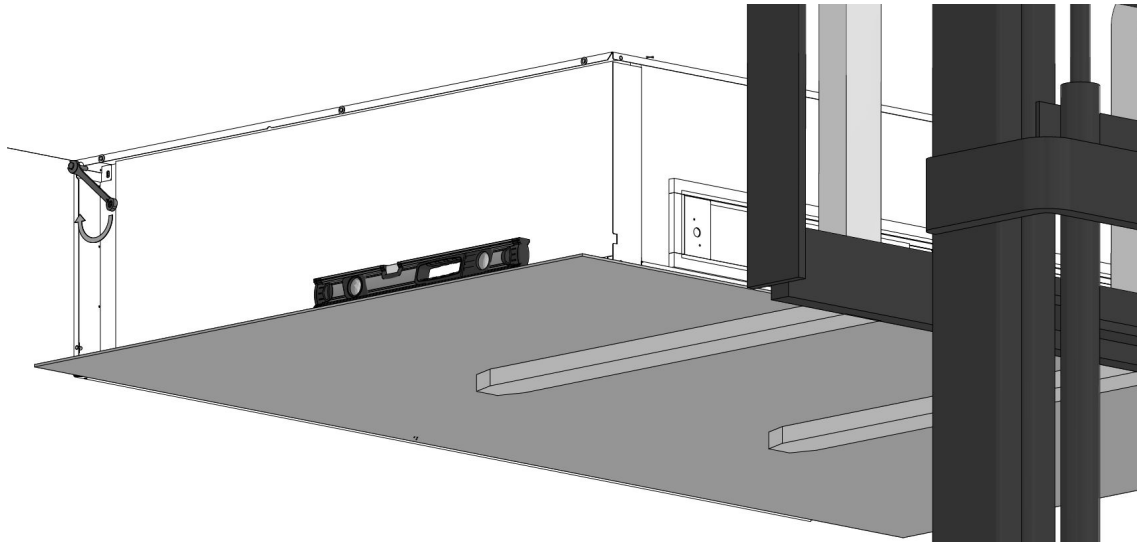
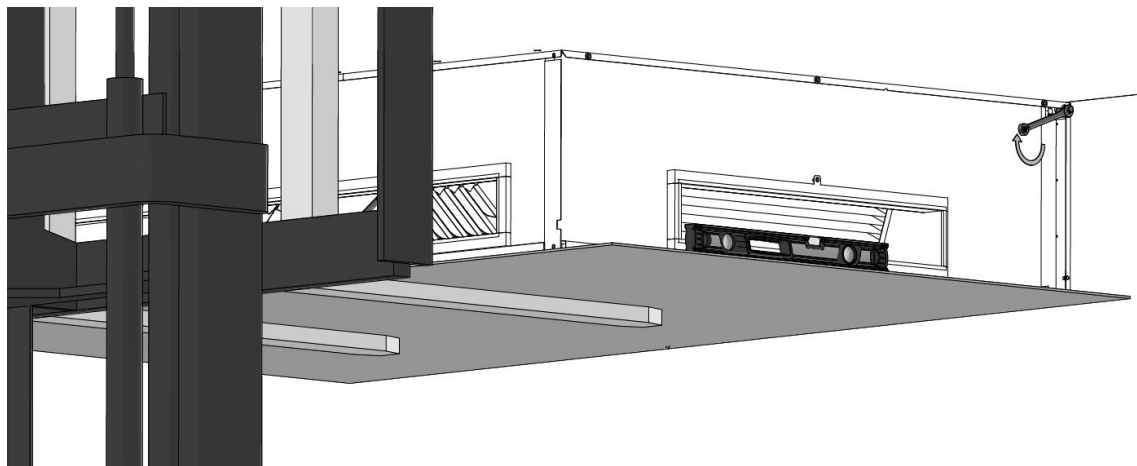

Figure 19: Attach the unit to the bracket, left-hand side
Figure 20: Attach the unit to the bracket, right-hand side
4. Attach the unit to the bracket on both sides using the large bolts that you kept when you dismantled it, see Figure 19 and Figure 20 below.